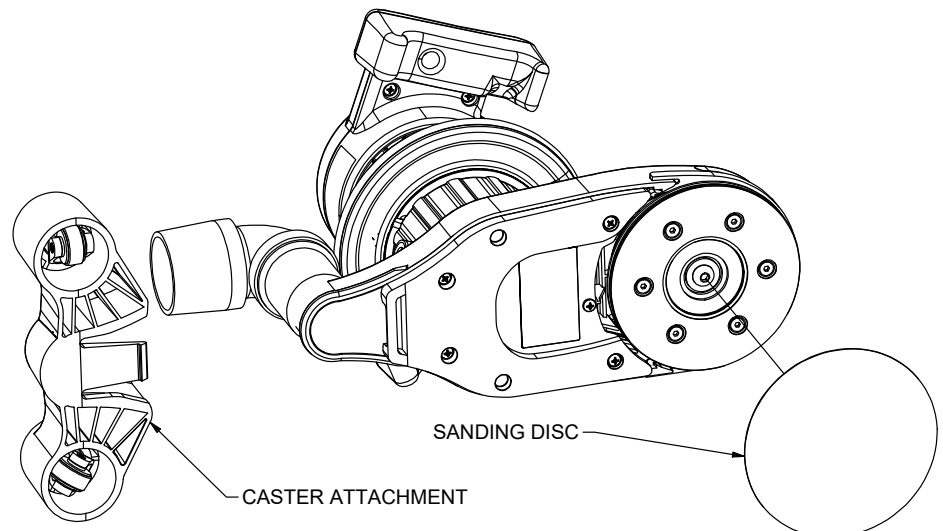

Figure 4
2. The machine will only accept hook and loop abrasive discs. When installing abrasive disc, take care to center disc on driver (Figure 4).
For Stair Sanding - Remove Edging Caster Attachment with one quick backwards tap on the caster attachment (Figure 4).